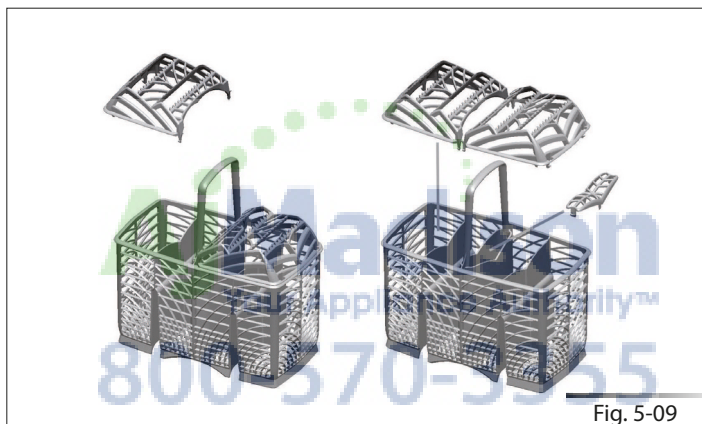

Fig. 5-09
5.3.2 Cutlery basket (see fig. 5-09/5-10 depending on models)